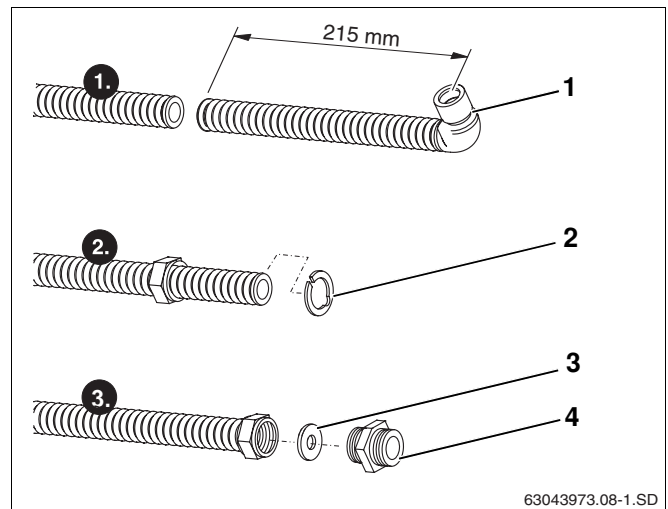

Fig. 38 Shortening the connection pipe (shown without insulation)
- Using a pipe cutter, cut the connection pipe 215 mm from the middle of the bend (Fig. 38, **Item 1**).
- Place clamping disc (Fig. 38, **Item 2**) behind the first rib and press together. The clamping disc must lie evenly on the collar of the union nut.
- Put large diameter washer (Fig. 38, **Item 3**) into the union nut in front of the cut surface of the connection pipe.
- Firmly screw double threaded fitting (Fig. 38, **Item 4**) into union nut, so that a flat sealing surface is created on the connection pipe.